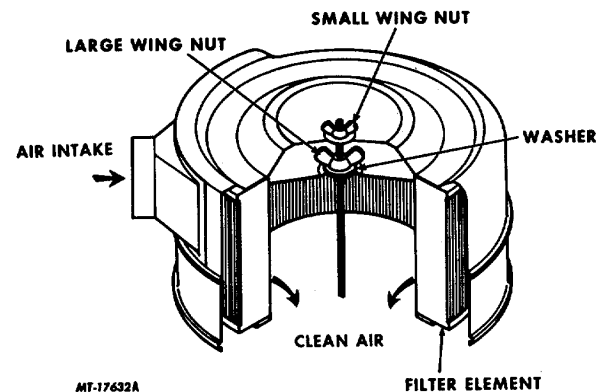

Fig. 186 Mounting Details of Engine Mounted Air Cleaner
7. Install air cleaner adapter or manifold crossover, air cleaner and air cleaner piping. Mounting details of the engine mounted type air cleaner are shown in Fig. 186.